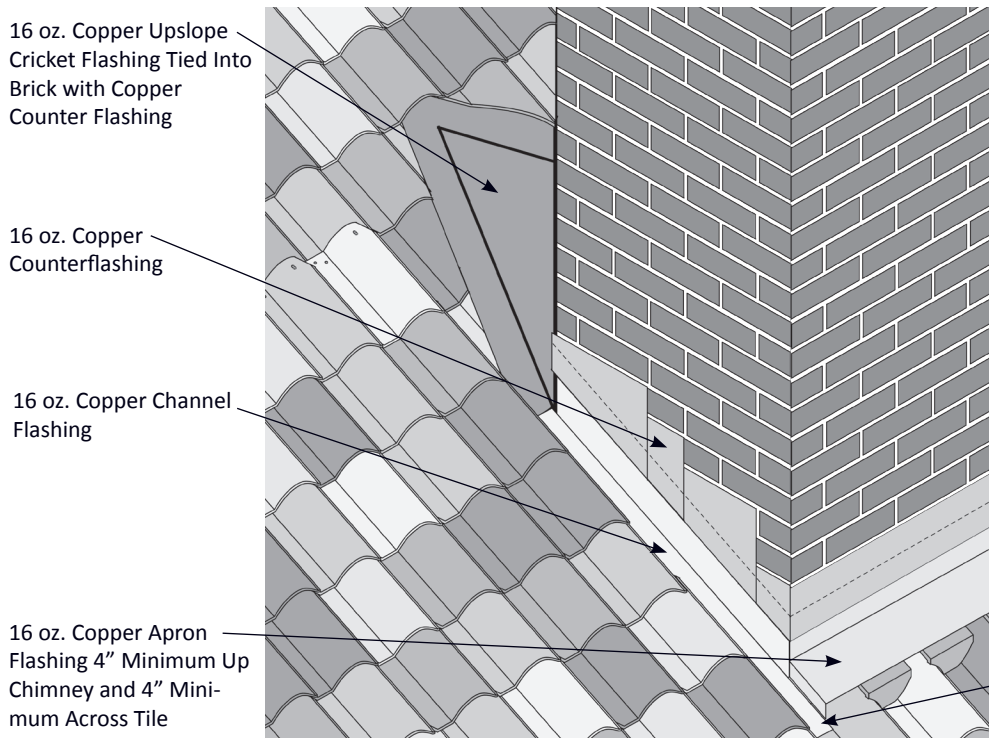

Figure 32.1 Chimney Flashing
2. Channel flashing along the sides of the chimney (see Figures 32.1 and 32.2).